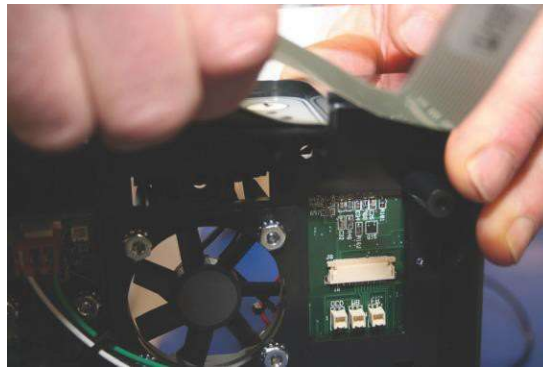

Figure 5.40
4. Remove the flex tab circuit from rib guides, and peel off the control panel/keypad from the center enclosure. (Figure 5.40)